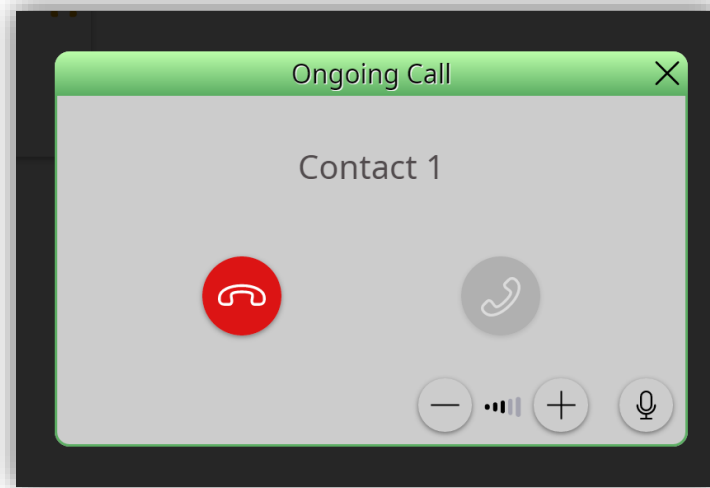

Figure 131. Ongoing call
- **Accept call:** opens ongoing call dialogue (Figure 131) initiating the audio communication.
When accepting an incoming internal call, the interface in Figure 131 will be displayed.